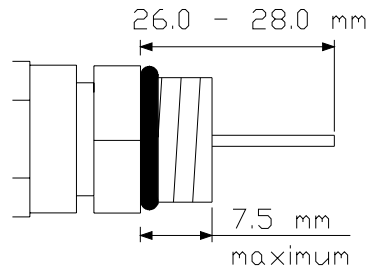

Figure 3. Centre conductor length
Underneath the CXE880 fibre receiver are two optical fibre ports with fibre adapters and one RF output port with F-female connector. The coaxial output has a standard PG11 thread and they accept any KDC type adapter or connector. The length of centre conductor is illustrated in Figure 3.
OLC mode jumper (Fig. 3 pos. 2)
Slope selection jumper (Fig 3. pos. 6)